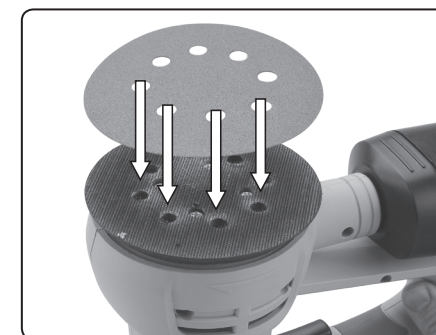

Fig. 2, illustrative picture attachment of sandpaper with holes
- 4) Put the sandpaper on the cut-out holder disc so that the extraction holes in the sandpaper correspond with the holes in the cut-out holder disc to enable the extraction of dust from the sanded surface, see fig. 2. Push the sandpaper / sanding disc against the cut-out holder disc to attach it to the Velcro zip.